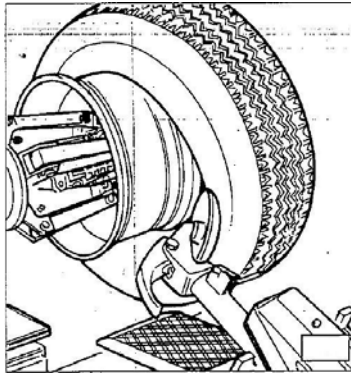

Fig.7.5
- 1) If the tyre is not difficult to demount, once the beads have been loosened, use the bead disk to push against the inside plane of the tyre until both beads come off the rim (See Fig.7.5).